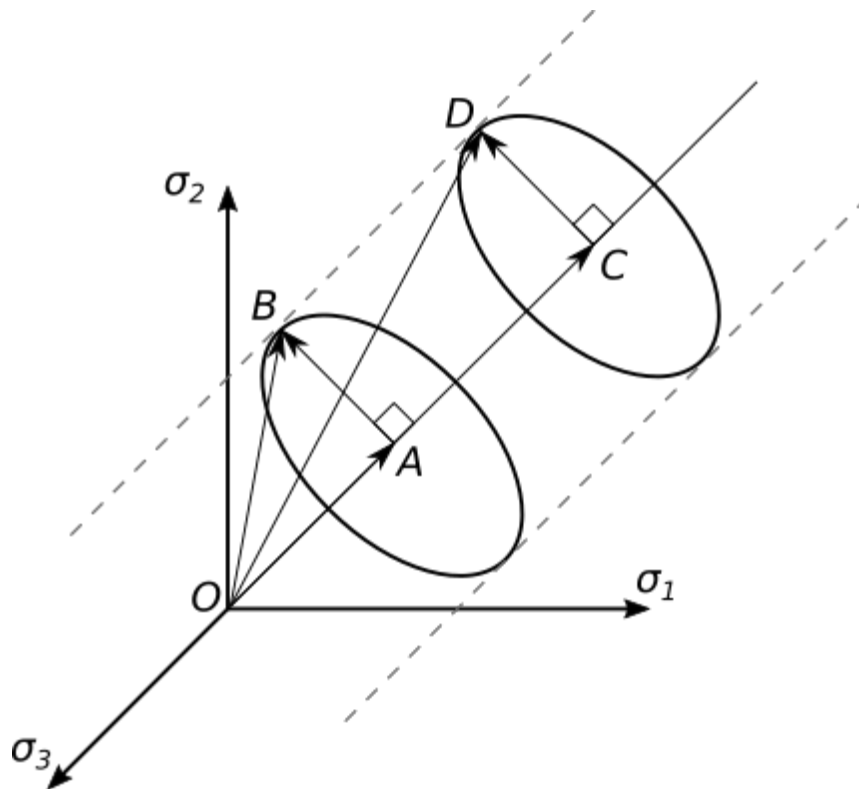

Fig. Q6
6. The hydrostatic stress component in Fig. Q6 is indicated by: